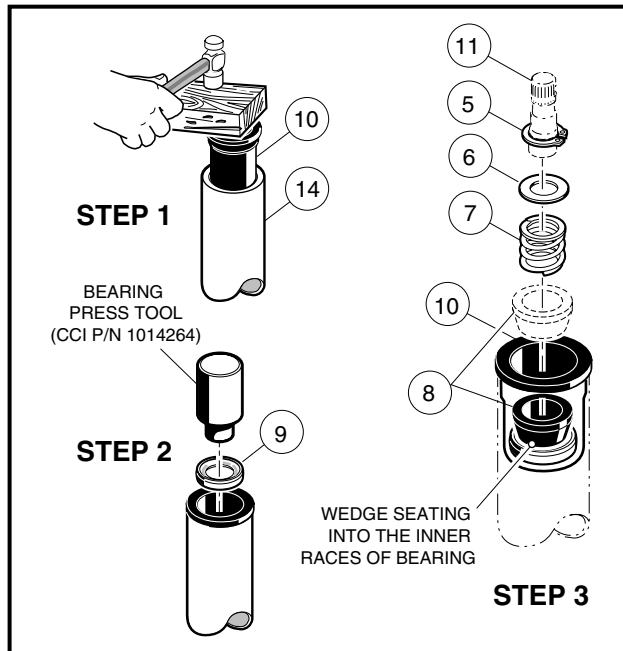
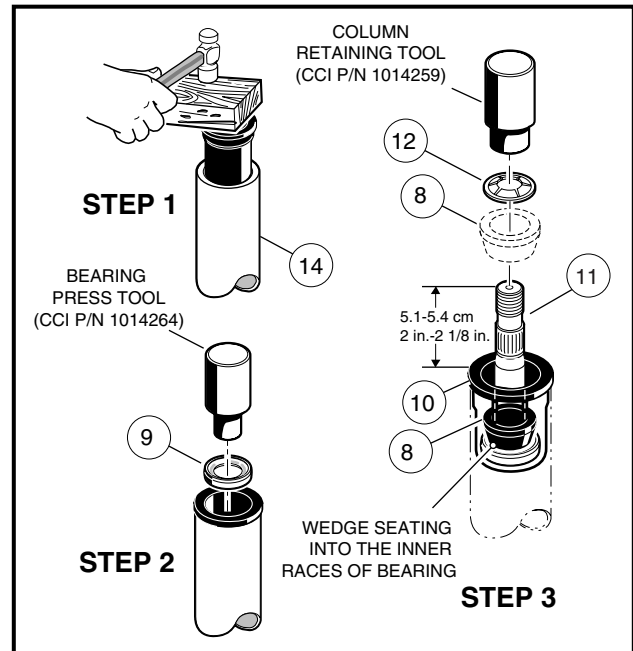

Figure 7-5 Steering Shaft-Bottom End
Figure 7-6 Steering Shaft-Top End
1. Insert bearing seat (10) into both ends of steering tube (14). Place a block of wood on bearing seat and tap lightly on block until bearing seat (10) is fully seated in steering tube (14) (**Figure 7-5, Page 7-5 and Figure 7-6, Page 7-5**).
2. Press the bearing (9) all the way into the bearing seat (10) using a steering column bearing press tool (CCI P/N 1014264) or a metal tube approximately six inches (15.2 cm) long with a maximum outer diameter of 1-3/16-inches (3.3 cm) and a minimum inside diameter of 7/8-inch (2.2 cm). Be sure the bearing is installed in the bearing seat as shown (**Figure 7-5, Page 7-5**) so the wedge (8) will ride against the inner race of the bearing.
3. Install the wedge (8), spring (7), washer (6) and snap ring (5) onto the bottom end of the steering shaft (11) (**Figure 7-5, Page 7-5**).
5. Turn the assembly over and place the shaft (11) on a bench. Install the wedge (8) and retaining ring (12) onto the top of the shaft. Be sure the prongs on the retaining ring face up and away from the wedge. Use a steering column retaining ring tool (CCI P/N 1014259) to seat the retaining ring to the proper depth. Support end of tube while pressing. If you do not have the recommended tool, use the same tube as was used in step 2 to press the retaining ring onto the top of the shaft. The retaining ring should be pressed onto the shaft until 2 to 2-1/8 inches (5.1-5.4 cm) of the shaft extends from the top of the bearing seat in the steering tube (**Figure 7-6, Page 7-5**).